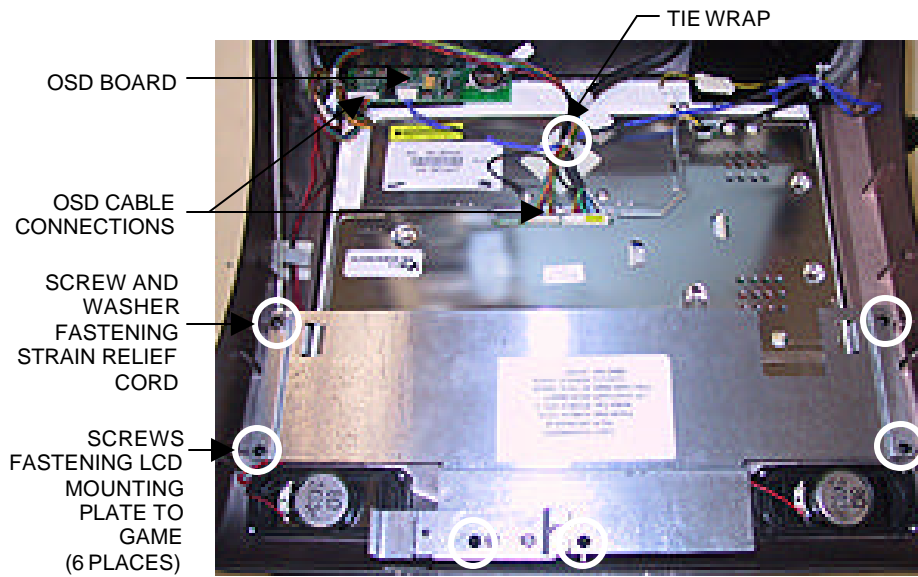
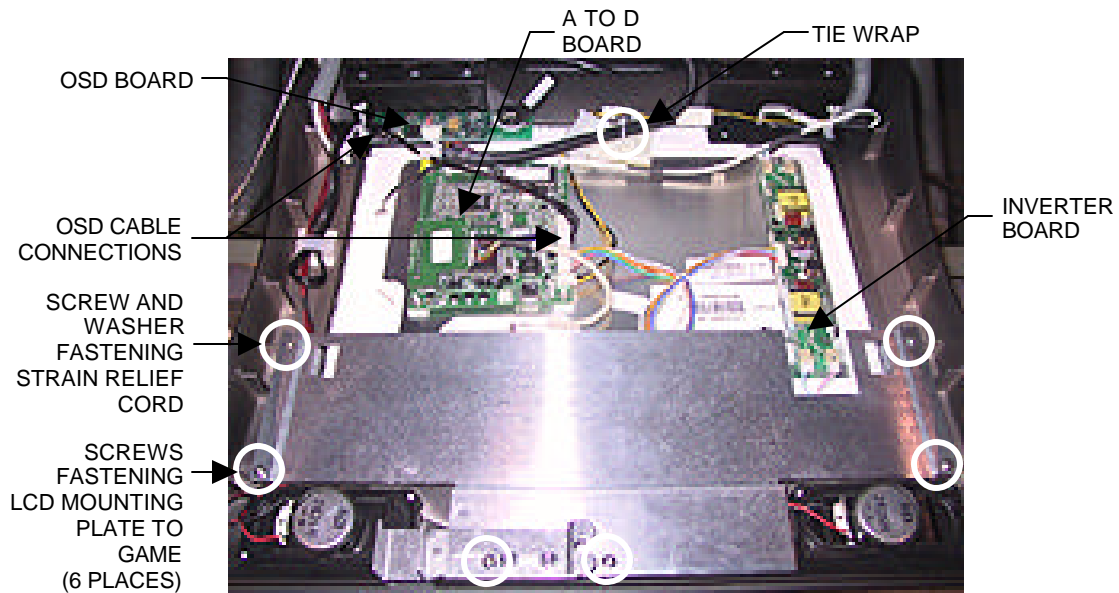

FIGURE 1 - CLOSEUP OF LCD MONITOR WITH INTERIOR CIRCUIT BOARDS
FIGURE 2 - CLOSEUP OF LCD MONITOR WITH EXTERIOR CIRCUIT BOARDS
3. Remove the screw and washer fastening the strain relief cord, then remove the remaining 5 screws fastening the LCD mounting bracket to the game and remove the bracket. Refer to Figure 1 for monitors with interior circuit boards and Figure 2 for monitors with exterior circuit boards. The bracket will not be reused.
4. Carefully cut the tie wrap around the VGA monitor cable, the OSD cable, and the setup/calibrate harness. See Figures 1 and 2.
6. Remove the OSD cable from the twist clamp and disconnect it from the OSD board. Then remove the OSD board from the velcro attached to the hinge and set it aside. See Figures 1 and 2.
**Monitors with exterior circuit boards:** Carefully slide the new monitor into the bezel with the A to D board on the left and the inverter board on the right (if you are facing the game--see Figure 2). Make sure the monitor is properly centered, then tighten the hinge screws.
4. Install the supplied LCD mounting bracket and fasten it to the game with the 6 screws. One screw (and washer) will fasten the strain relief cord. See Figures 1 and 2.
9. Reattach the OSD board to the velcro on the hinge, then connect the new OSD cable to both the OSD board and the monitor. Secure the cable in the twist clamp. See Figures 1 and 2.
11. Tie wrap the VGA monitor cable, the OSD cable, and the setup/calibrate harness. See Figures 1 and 2.